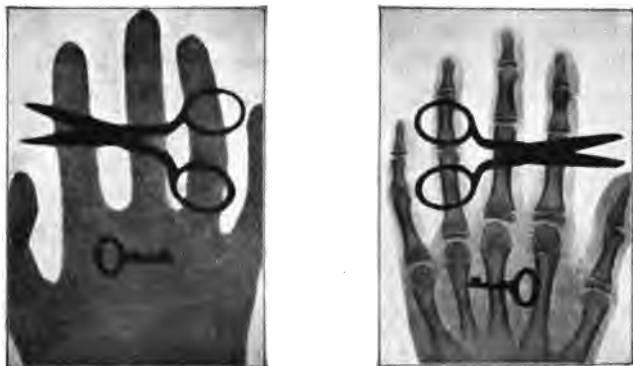

FIG. 524. — Radiographs. The cut at the left was made by the action of radium rays. The one at the right by the X-rays. (Courtesy of Radium Limited, U. S. A.)
is only a shadow picture. The bones and metallic objects are darker, since they absorb the X-rays more readily. See Fig. 524. Before radiographs of the stomach and intestinal tract are taken, the patient is given large doses of butter-milk containing barium sulphate and bismuth subnitrate in suspension. These heavy solids cause the outline shadows of these organs to become very distinct. Cancer on the walls of the stomach shows so clearly that 90% of the diagnoses following X-ray examination prove correct.
506. Radium. In many respects radium is the most interesting element ever discovered. Its properties are unusual and it *does* things. (1) It affects a photographic plate, even through opaque substances like paper, wood, and thin sheets of metals, Fig. 524. (2) Radium and its compounds discharge an electroscope; they knock to pieces